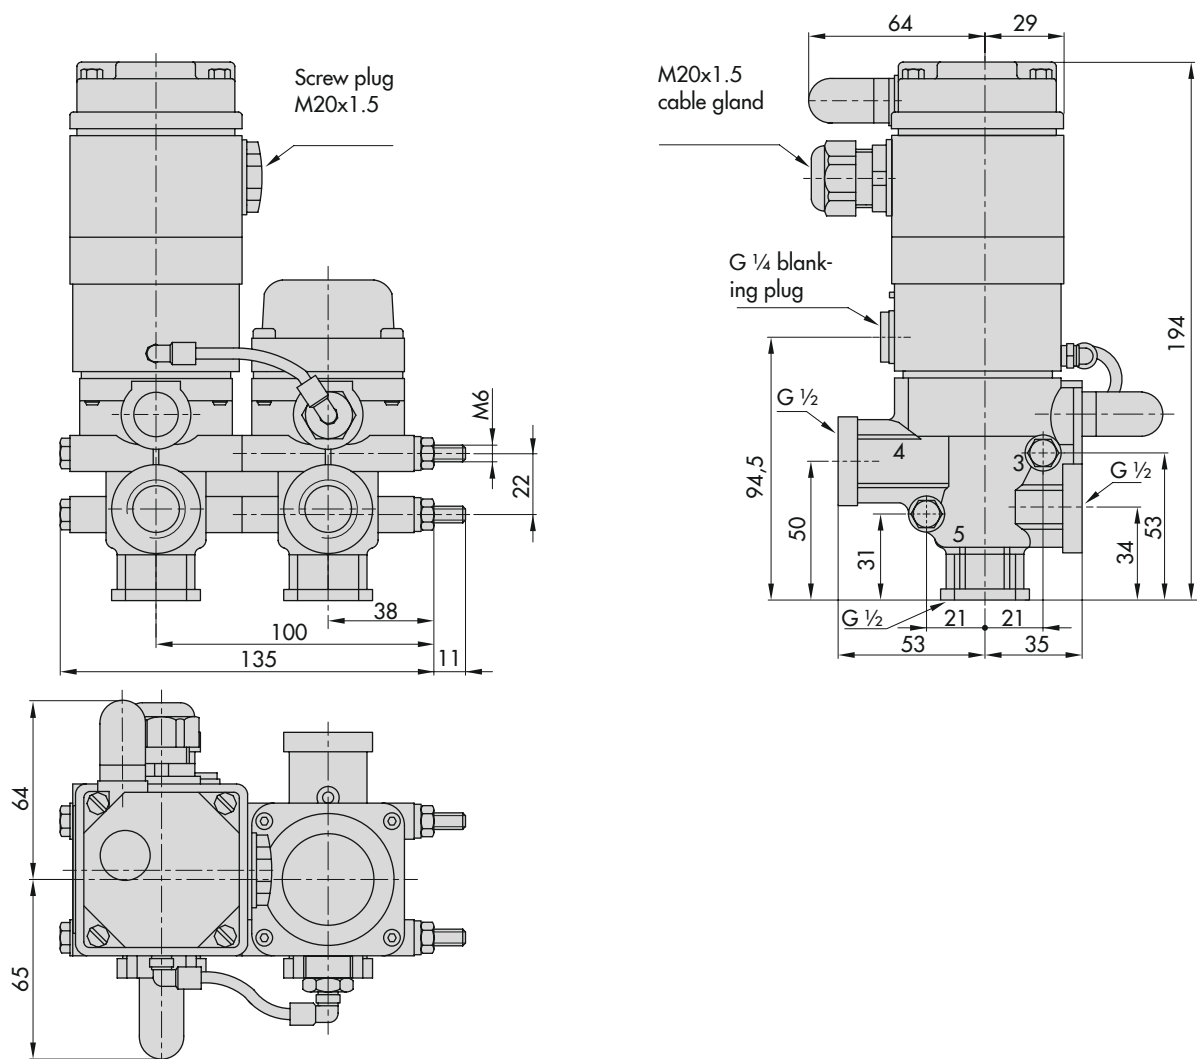

Fig. 12: 5/2-way solenoid valve, actuated on one side, K_{VS} 4.3
8) Connecting hose between booster valves made of polyamide, see Fig. 12 and Fig. 13